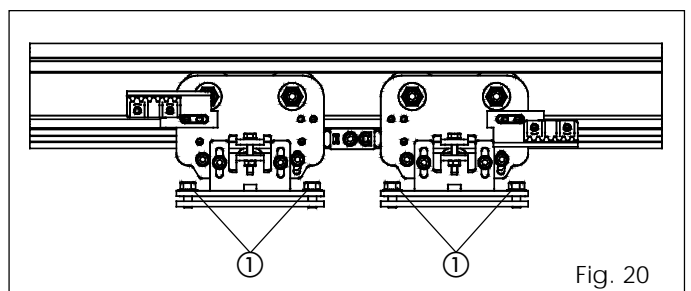

Fig. 20
The 940 SM series doors are supplied with the carriages reaching their travel stop limit on the closing edge (fig. 20). If the door centre has to be adjusted, proceed as follows:
- Loosen the fixing screws (fig. 20 ref. ①) of the carriage in question. Take the carriage toward the limit stop until the two parts are in contact.